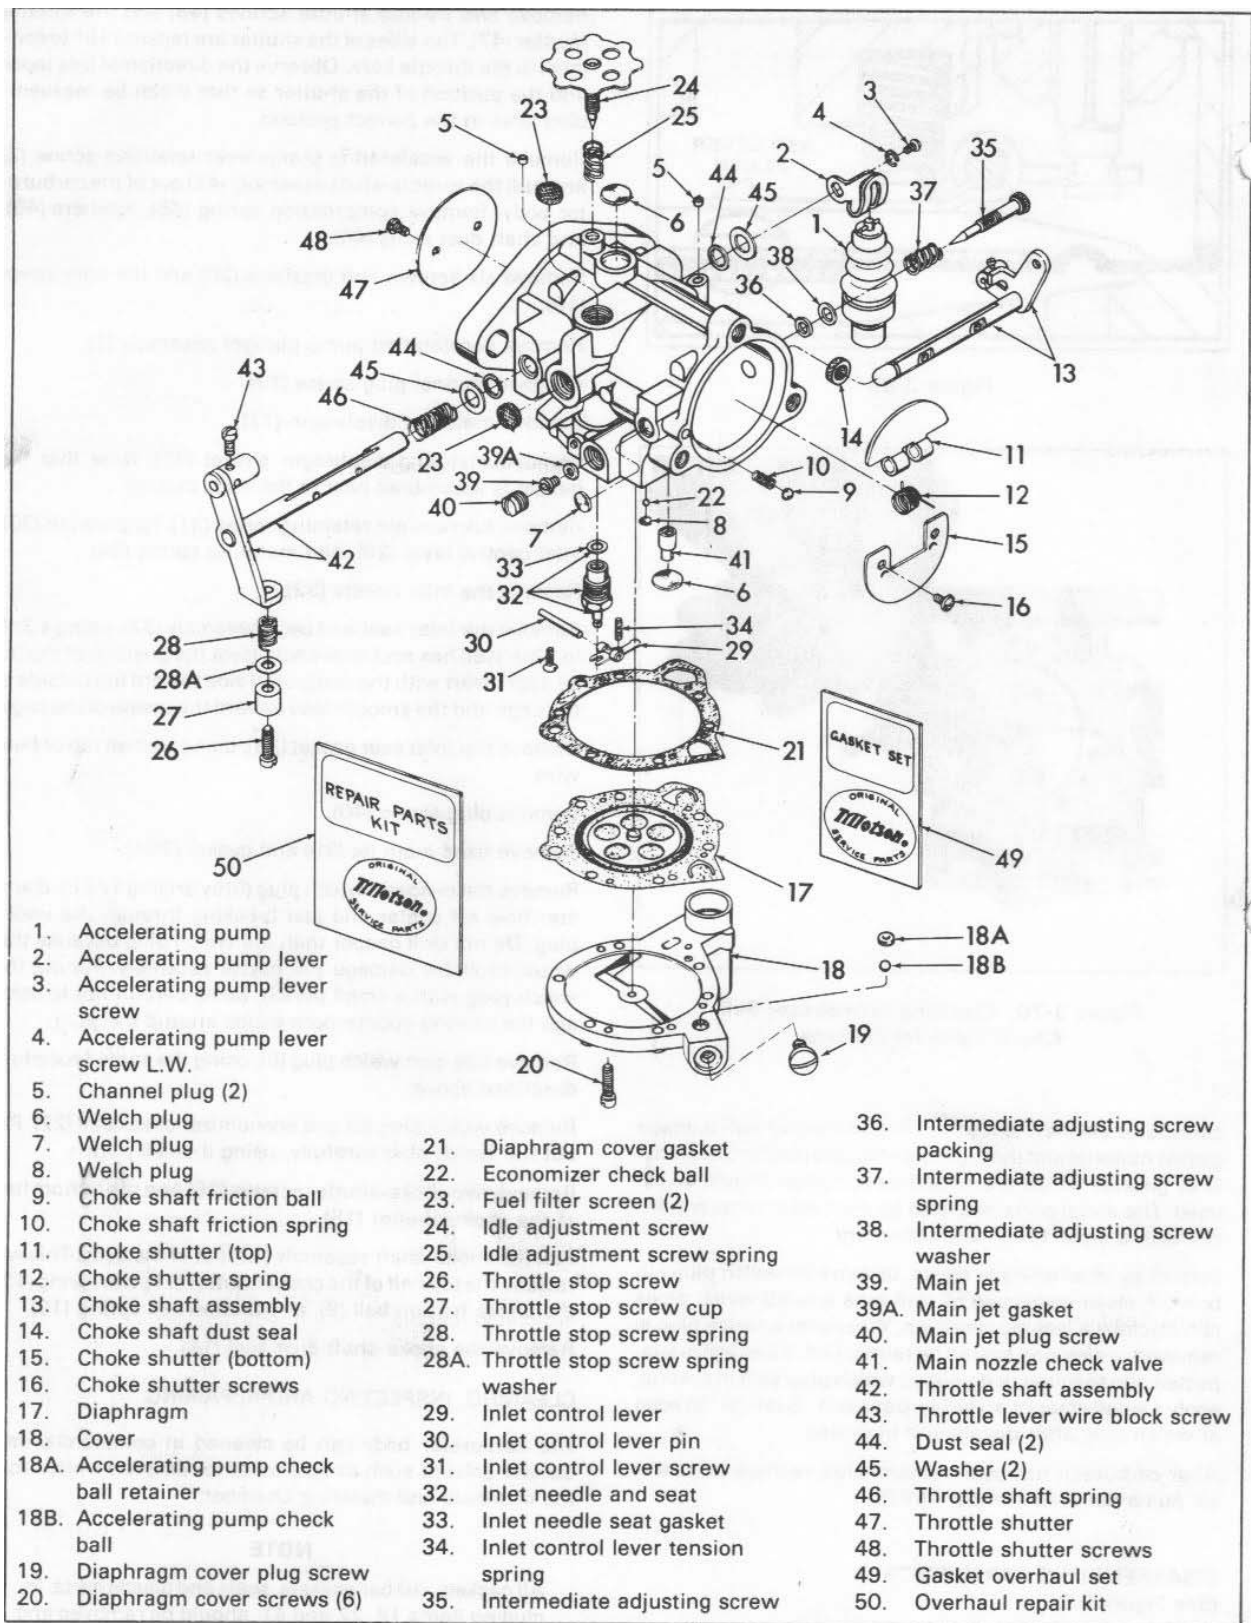

Figure 3-71. Model HD Carburetor - Exploded View - 1970-71 Models
#### DISASSEMBLING CARBURETOR (See Figure 3-71)
The inlet control lever must rotate freely on the fulcrum pin and forked end must engage slot in inlet needle (see Figure 3-71). The spring (34) should not be stretched or distorted.
#### ASSEMBLING CARBURETOR (See Figure 3-71)
#### TROUBLESHOOTING GUIDE (See Figure 3-71)